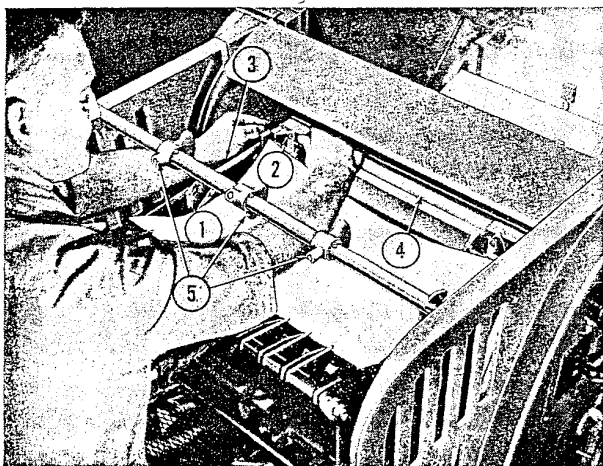

Figure 33—Setting Side and Rear Joggers
(2) HOW TO SET DELIVERY SIDE AND REAR JOGGERS. (See figure 33.)—The side and
(b) Set the side jogger wings, (1) figure 33, according to length of sheet. Turn press ahead until sheet is dropped by delivery grippers onto delivery table. Set rear jogger wings, (2) figure 33, according to width of sheet.
(3) **DELIVERY AIR NOZZLES, SHEET STOP FINGER BAR, AND DELIVERY GRIPPERS.**—The three air blast nozzles, (5) figure 33, are provided to quickly settle the sheets down on the delivery table. The nozzles are adjustable on the air tube so that air blast may be directed as required. A separate line from the air pumps to the delivery air nozzles provides for constant air pressure. The number of nozzles used, as well as the positioning of the nozzles, is dependent upon the size of the sheet. They need only be used when running thin stock. When not in use, turn nozzles so that they face away from the delivery table.